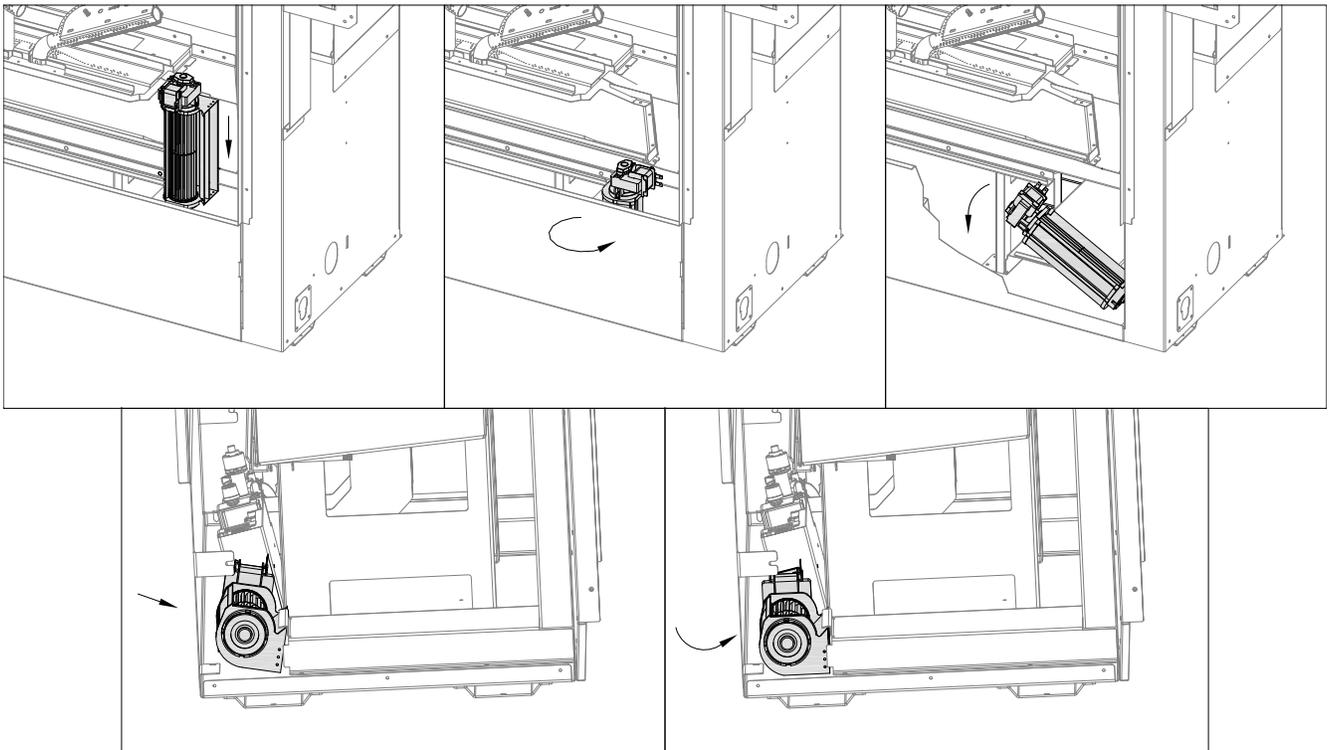

Figure 8.15 - #SL42-028 Fan Kit Installation
4. With the terminal end of the fan facing you and the fan terminals on the left, insert fan into chamber. See Figure 8.15.
7. Place the upper edge of the fan discharge under the edge of fireplace air channel opening. Rotate the fan up towards the edge to secure fan into place. See Figure 8.15. **DO NOT LET THE FAN REST ON ANY ELECTRICAL CORDS.**